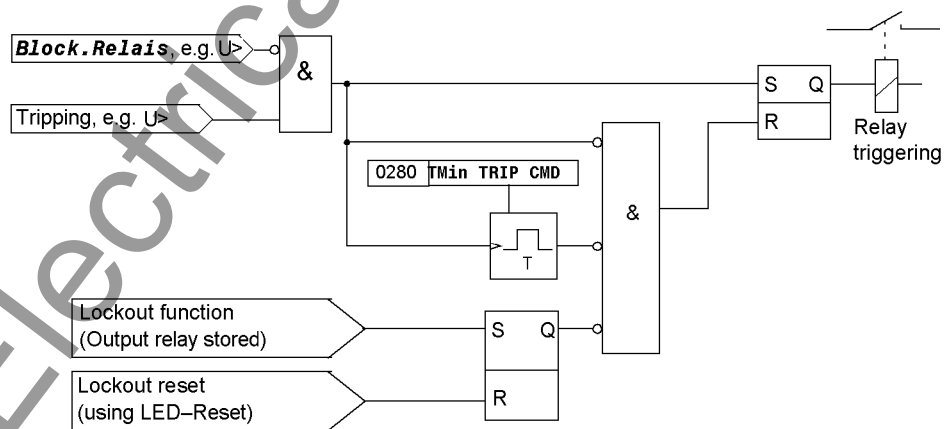

Figure 2-77 Terminating the Trip Signal, Example of a Protective Function
- A trip command once transmitted is stored (see Figure 2-77). The minimum trip command duration **T TRIPCOM MIN** is started at the same time. This ensures that the command is transmitted to the circuit breaker for a sufficient amount of time, even if the function which issued the trip signal drops out quickly. The trip commands can only be terminated when the last protection function dropped out (i.e. functions no longer pick up) AND the minimum trip signal duration has expired.